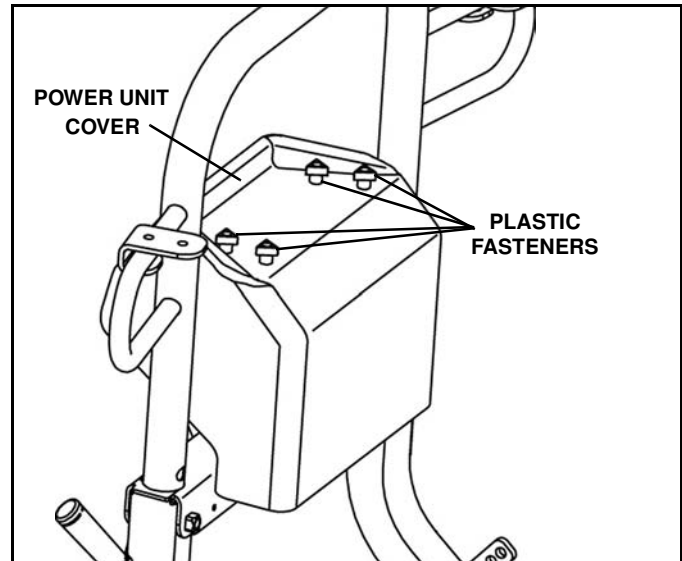

Figure 1-42
3. Unscrew and remove four plastic fasteners from the cover and remove the cover. (See Figure 1-42).